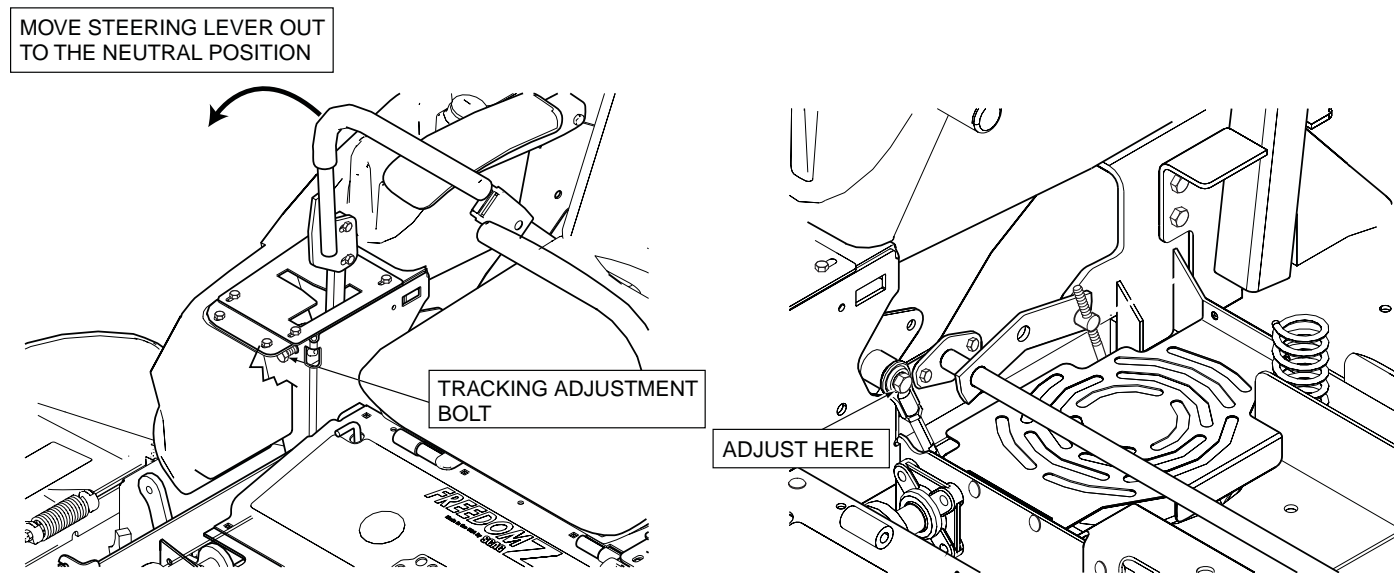

Figure 6-3. Steering Control Adjustment
4. Tilt the seat forward and adjust the RH wheel by loosening the upper control linkage mounting bolt. (See Figure 6-3). Allow the transmission to position the control linkage.
- A. Stop the machine and place the steering control levers in the neutral position. Turn the tracking adjustment bolt for the LH pump inward (clockwise). This will cause the control rod to stroke the LH pump less, slowing down the LH wheel. (See Figure 6-3, Page 23).
- A. Stop the machine and place the steering control levers in the neutral position. Turn the tracking adjustment bolt for the RH pump inward (clockwise). This will cause the control rod to stroke the RH pump less, slowing down the RH wheel. (See Figure 6-3).